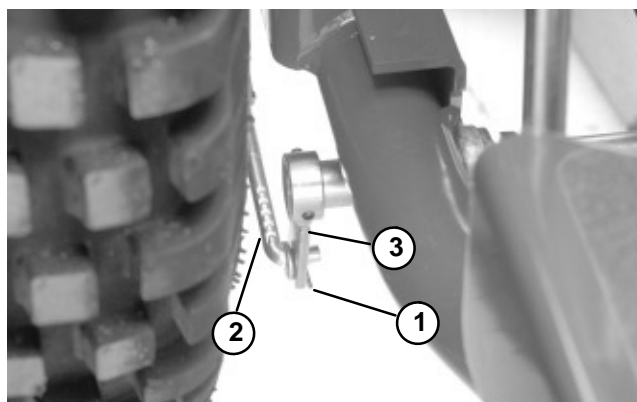

Figure 27
5. Remove cotter pins from both adjusting rods. Separate adjusting rods from both brake arms (Fig. 27).
8. Connect adjusting rods to both brake arms. Secure both adjusting rods with a cotter pin (Fig. 27).